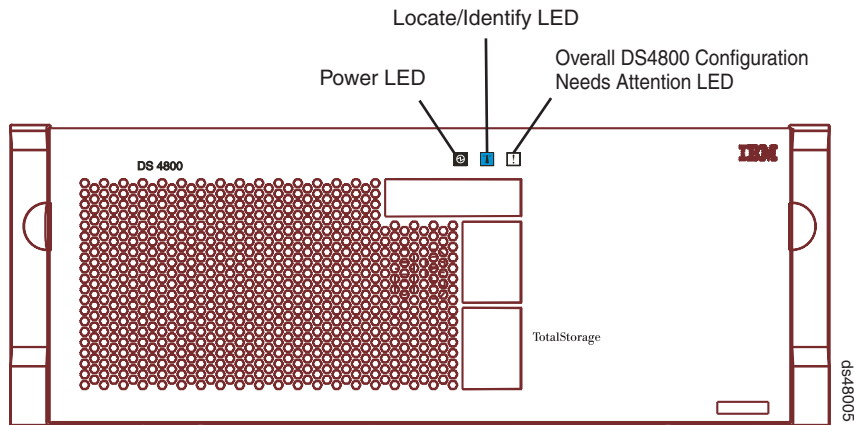

Figure 100. Overall DS4800 Configuration Needs Attention LED on the DS4800 front bezel
2. Locate the storage subsystem that has the failed SFP module by checking the Overall DS4800 Configuration Needs Attention LED on the front bezel of the storage subsystem. (Figure 100 on page 168 shows the location of the Overall DS4800 Configuration Needs Attention LED on the front bezel.)